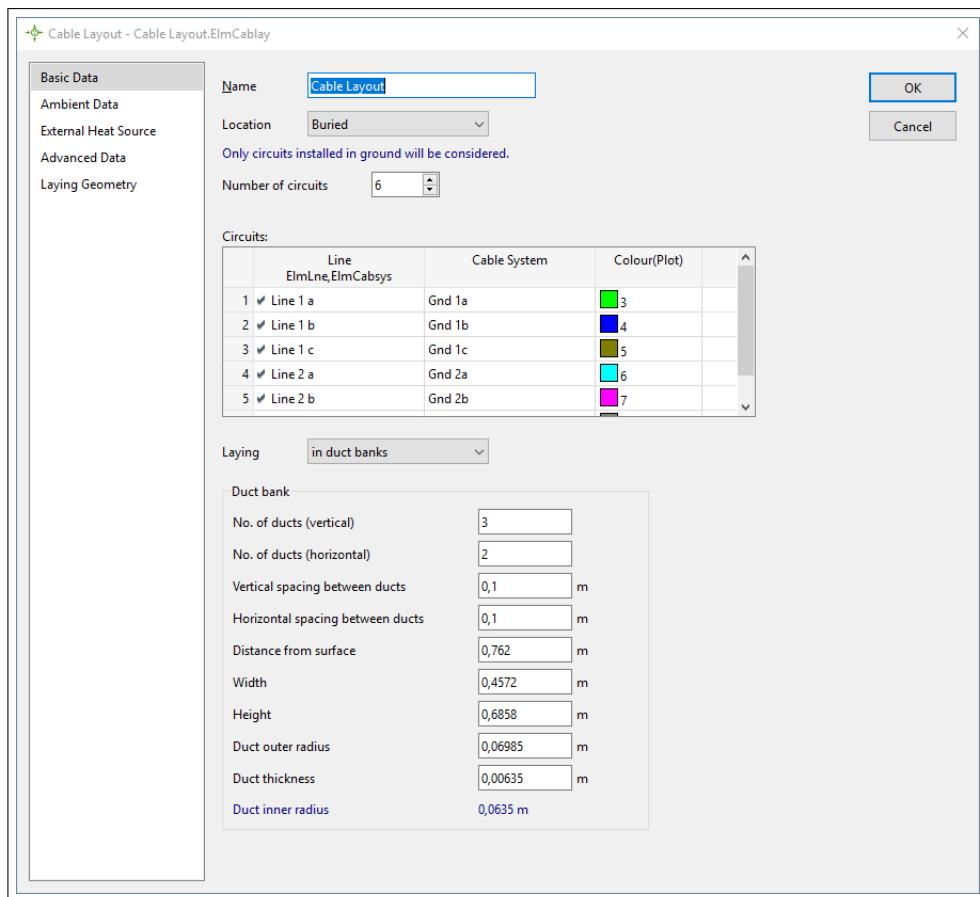

Figure 35.5.2: Cable Sizing Cable Layout parameters - Basic Data
- *Basic Data - See figure 35.5.2*